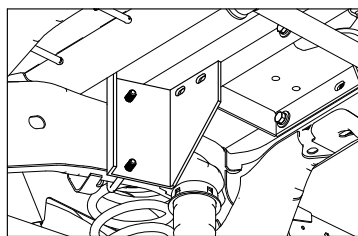

Figure E3: View of passenger side plate looking from floor up at the frame
2. **Install passenger side plate.** Locate the Passenger side side plate. Position the side plate so that the two round holes match up to the U-bolt on the passenger side and push the U-bolt into the holes, see Figure E3. Secure the side plate and U-bolt with lock washers and nuts. Attach this side plate to the front cross member and center using a 2-1/4" long bolt through the center, cross member and side plate along with a lock washer, two flat washers, and a finish nut. Finish attaching the side plate by placing another 1/2" x 1-1/2" long bolt through the cross member and the side plate adding a flat washer, lock washer, and finish nut. Hand tighten these connections.